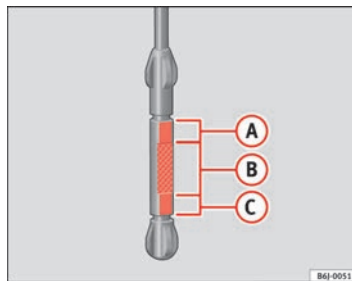

Fig. 122 Engine oil dipstick
- Then pull it out once more and check the oil level ⇒ page 183, fig. 122. Top up with engine oil if necessary.